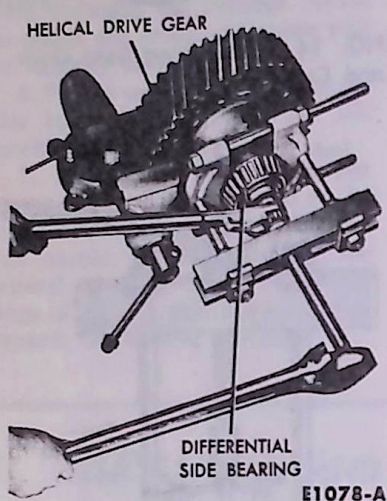

FIG. 18 Removing Differential Side Bearing
1. Mount the differential in a softjawed vise. Then, if necessary, remove both differential side bearings with the type of tool shown in Fig. 18.